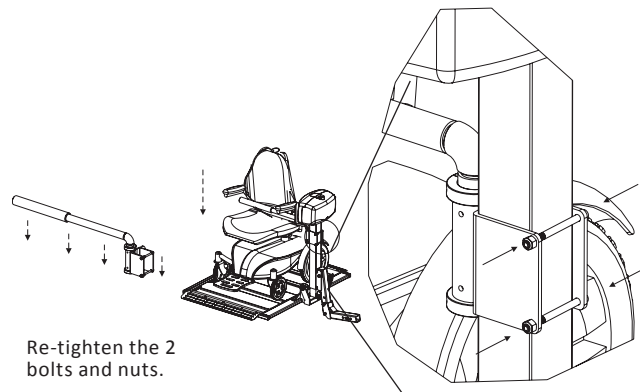

Figure 6-13
4. Lower the platform approximately 2" to 3" and allow the arm to drop along with the seat. Tighten the two bolts and nuts (8 ft-lb). *See Figure 6-13.*